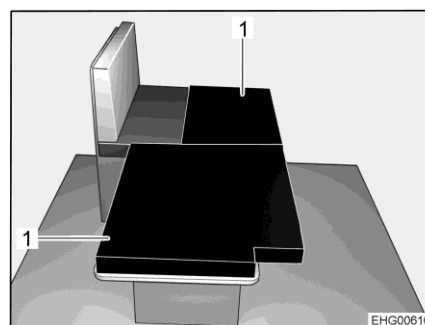

Fig. 50 After conversion
- Place the two additional cushions (Fig. 50,1) on the lowered table as shown in the image.